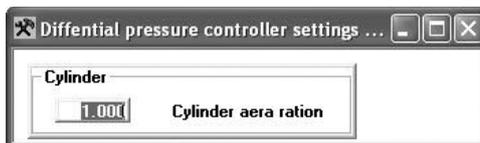

Fig. 85: Setting of the area ratio
- Delta pA-pB (pressure differential): The difference of the pressure in A and B is calculated in an area ratio-evaluated form. The area ratio can be set in the range from 0...15.99 (fig. 85 "Setting the area ratio" on page 86; M481). If the valve with the A side controls the bottom side of the single-rod cylinder, an area ratio "> 1" is to be set. If the rod side is controlled with P-A, an area ratio "< 1" is to be set. With a double-acting cylinder, a value of "1" is to be set. The calculation of the pressure command value and the output actual pressure value will then result with a positive Q command value: